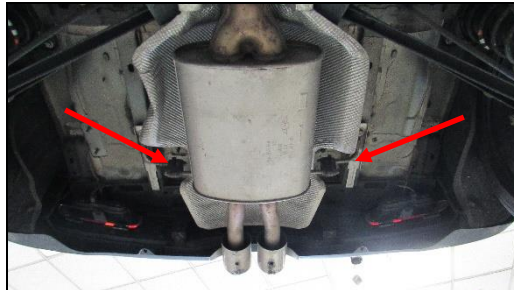

Figure 4
5. Remove the (x2) hangers out of the rubber isolaters and remove the OE exhaust (**Figure 4**).